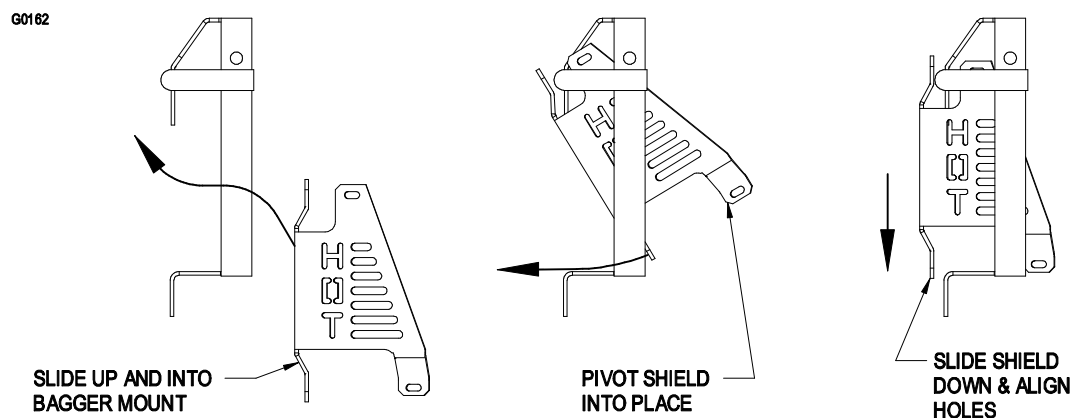

FIGURE 9
- 3.4.2. Working from the front side of the bagger mount, slide the top end of the engine guard up and into the mount. Pivot the lower end through the bagger mount and slide it down into place until the holes align with the holes in the bagger mount (See Figure 9).